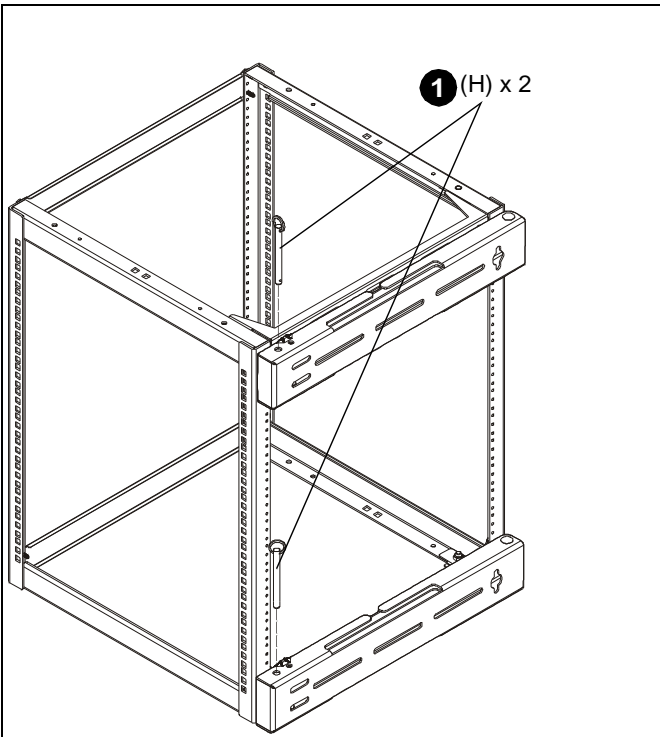

Figure 12
2. Use two locking pins (H) to secure rack in the locked position. (See Figure 12)